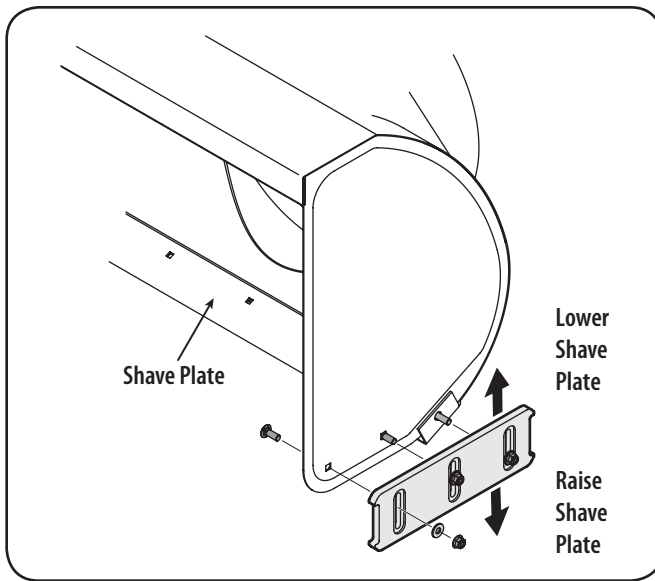

Figure 3-10
1. Adjust skid shoes by loosening the six (three on each side) hex nuts, washers, and carriage bolts securing the skid shoes to the auger housing. Refer to Figure 3-10.